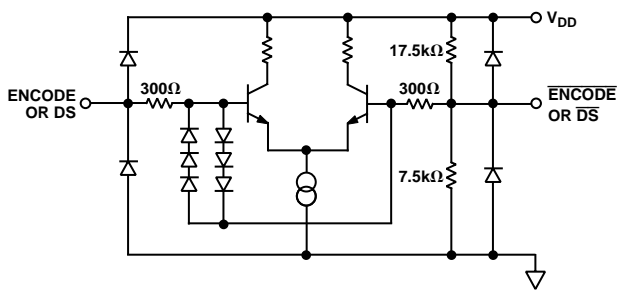

Figure 5. Equivalent ENCODE and Data Select Input Circuit
³t_V and t_{PD} are measured from the threshold crossing of the ENCODE input to valid TTL levels of the digital outputs. The output ac load during test is 5 pF (Refer to equivalent circuits Figures 5 and 6).
ENCODE and Data Select (DS) can be driven differentially or single-ended. For single-ended operation, the complement inputs ($\overline{\text{ENCODE}}$, DS) are internally biased to $V_{\text{DD}}/3$ (~1.5 V) by a high impedance on-chip resistor divider (Figure 5), but they may be externally driven to establish an alternate threshold if desired. A 0.1 μF decoupling capacitor to ground is sufficient to maintain a threshold appropriate for TTL or CMOS logic.
Note the 6-diode clock input protection circuitry in Figure 5. This limits the differential input voltage to $\sim \pm 2.1$ V. When the diodes turn on, current is limited by the 300Ω series resistor. Exceeding 2.1 V across the differential inputs will have no impact on the performance of the converter, but be aware of the clock signal distortion that may be produced by the nonlinear impedance at the converter.